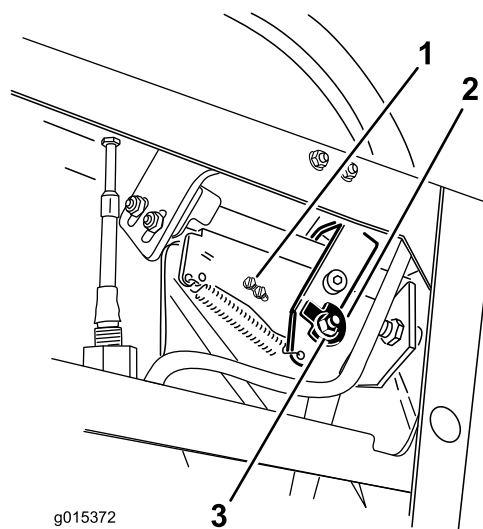
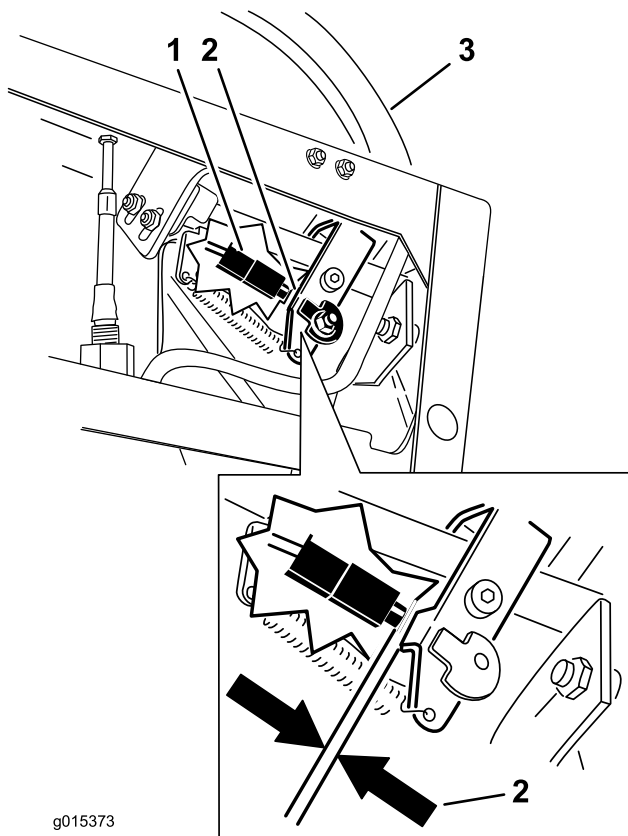

Figure 70
Figure 71
10. Check the gap between the control lever and switch as shown in Figure 71. The gap needs to be an 1/8 inch (3mm) with the right motion control lever in the neutral, unlocked position.
11. If needed, loosen the screws holding the switch and adjust the switch (Figure 70 and Figure 71).
7. Loosen the nut and bolt holding the cam (Figure 70).